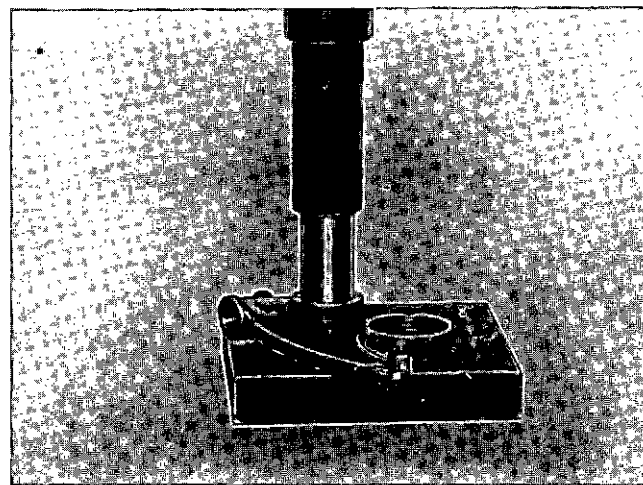

Fig. 3-1-5, N10304. Installing bushing with ST-691
8. Install new bushing with ST-691 and arbor press, Fig. 3-1-5.